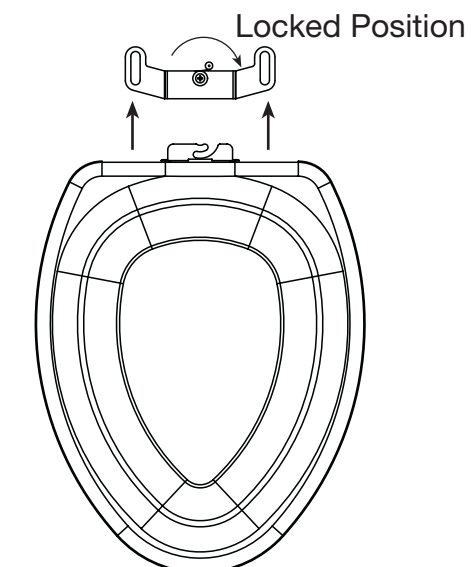

Figure 3
7. Slide the Elevated Seat with Latch Receiver Bracket into the Locking Latch Lever Bracket. Move the cam lever to the locked position (see Figure 3).